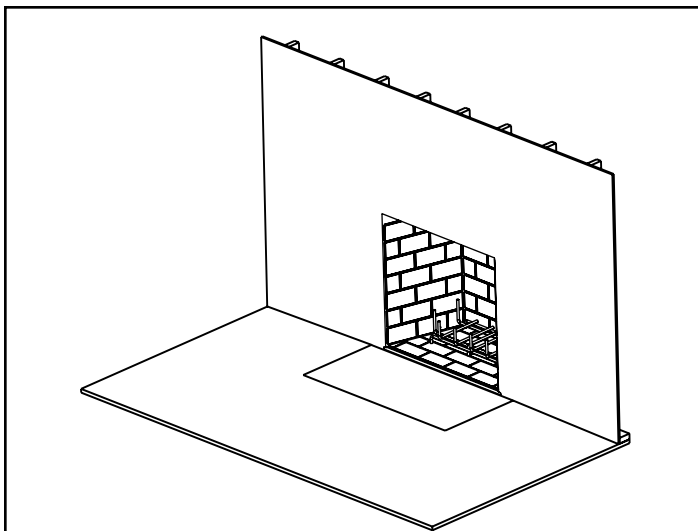

Figure 12.7 Flush Hearth Extension
- Refer to Figures 12.7 and 12.8.